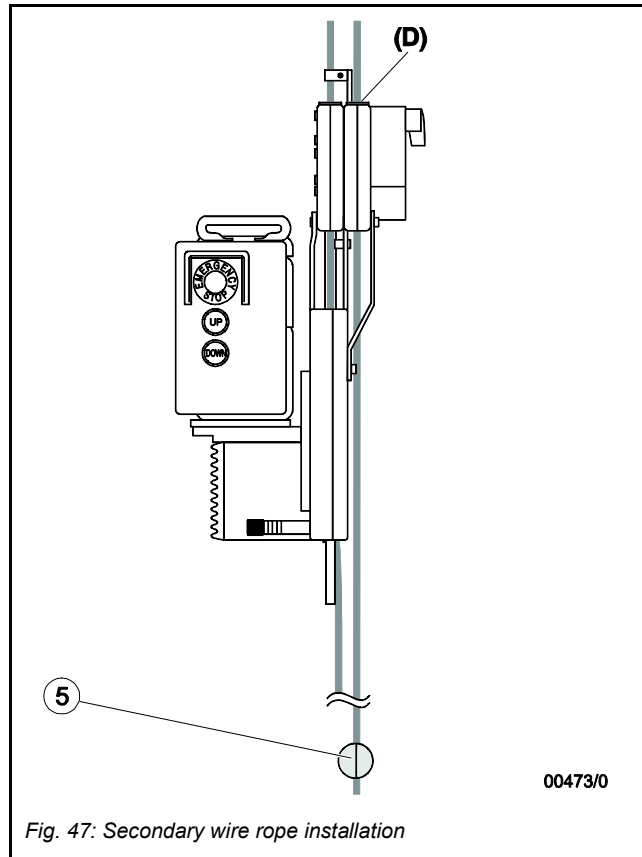

Fig. 47: Secondary wire rope installation
- (2) Insert secondary wire rope at (D) and push through until it is tensioned (Fig. 47).
- (3) Above ground level fix a tensioning weight (5) of approx. 25 lbs. (10 kgs) to the lower end of the secondary wire rope (Fig. 47). This weight will help to pull the secondary wire rope through the BS/BSO secondary brake and avoid slack wire rope above the hoist.
- (4) Make sure tensioning weight (5) will not damage property or create a hazard by swinging freely.